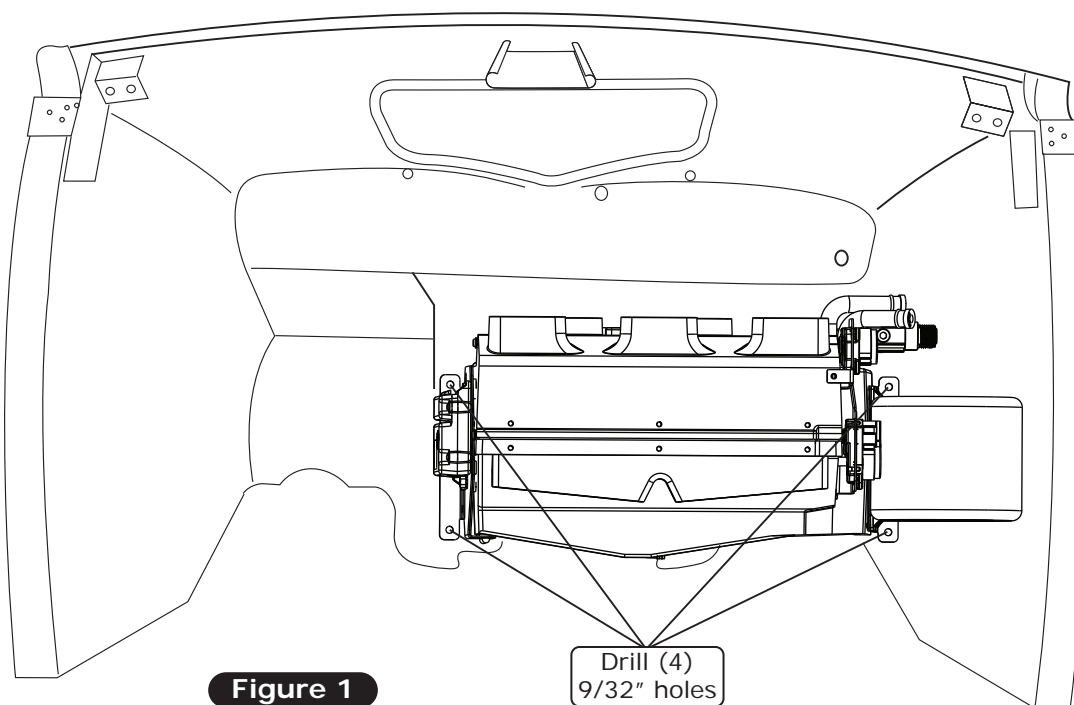

Figure 1
4. The cowl vent handle will work if moved to the side. You can also convert to electric or cable operation. If you close off the cowl vent, the module will fit higher in the car. **NOTE: To mount the module higher, simply determine the new location, mark and re-drill the bracket to fit as described in Step 6 (See Figure 1, below). Be sure to allow sufficient clearance for routing the duct hoses.**